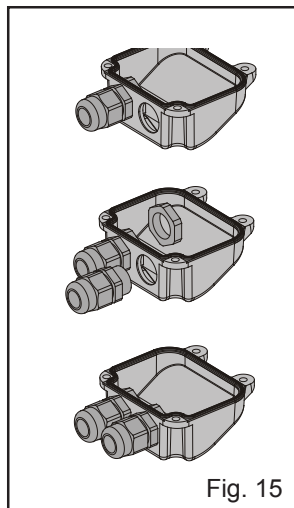

Fig. 15
1. Open the second pre-drilled hole in the cover, see Fig. 15.
2. Fit the supplied cable gland, see Fig. 15.